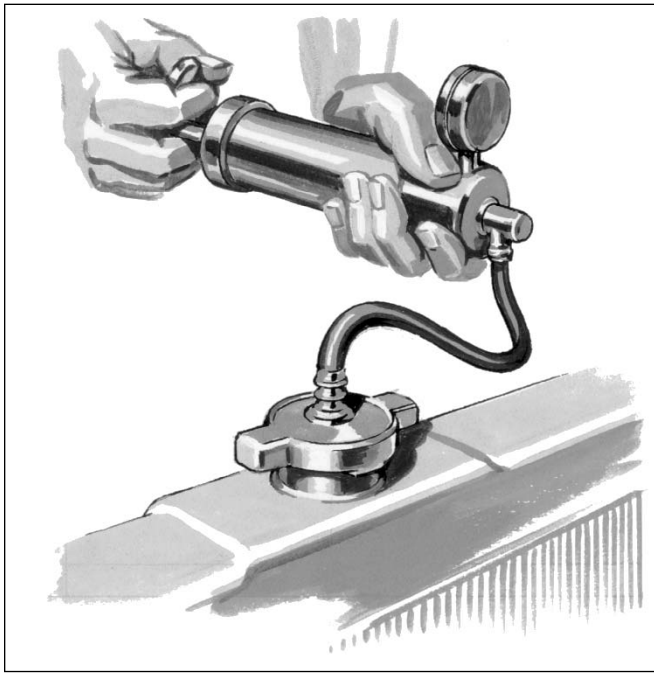

Fig. 1-3. Attach the pressure tester to the filler neck.
2. Pump the tester until the gauge reading matches the specified system pressure, figure 1-3